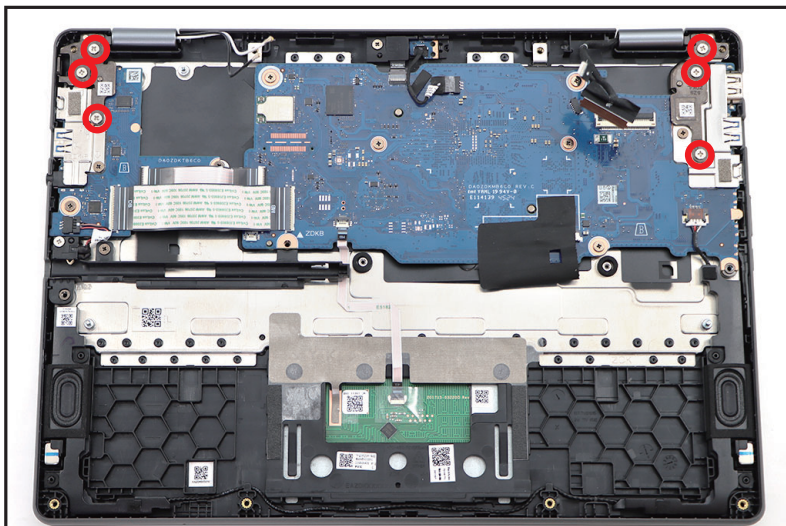

Figure 1-20. LCD Module Removal
4. Remove six (6) screws securing the LCD hinges (Figure 1-20).